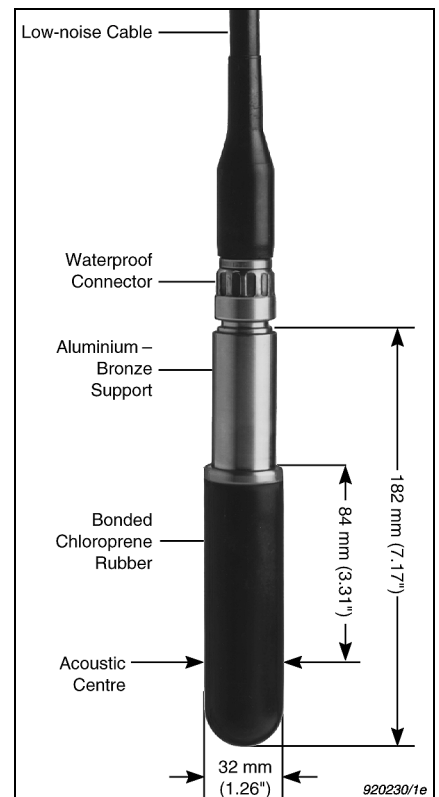

Fig. 4 Hydrophone Type 8106
**Hydrophone Type 8106.** A wide-range, general-purpose transducer for making absolute sound measurements over the frequency range 7 Hz to 80 kHz with a receiving sensitivity of  $-174$  dB re  $1$  V/ $\mu$ Pa. The hydrophone is capable of withstanding high static pressure, the operational upper limit being  $10^7$  Pa (100 atm.; 1000 m (3250 ft.) ocean depth). A built-in high-quality, thick-film, low-noise, 10 dB preamplifier provides signal conditioning for transmission over long underwater cables. The preamplifier features a 7 Hz high-pass filter and an insert-voltage calibration facility, but does not allow the hydrophone to be used as a projector. An integrated watertight connector allows quick disconnection of the cable and makes replacements and storage very easy. Type 8106 is shown in Fig. 4.